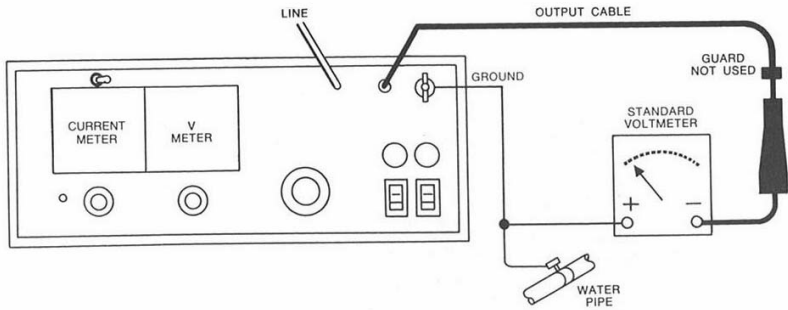

Figure 19: Connections for Calibration of Voltmeter.
1. Connect the Test Set as shown in Figure 19.